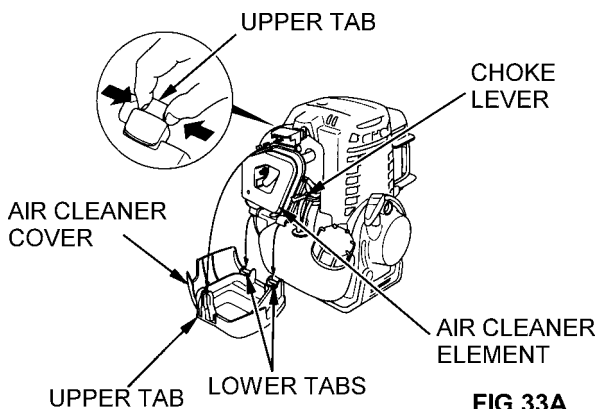

FIG 33A
5. Reinstall the filter (Fig. 33A) air filter cover. Note sequence of parts.